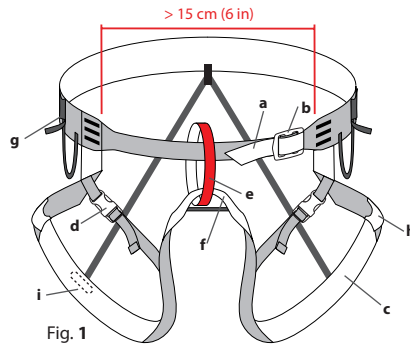

Fig. 1
Overview (Figure 1)
4. The waist belt must fit tightly around your waist above your hip bones and below your rib cage. Make sure that at least 5 cm of webbing tail extend from the safety buckle (b) on your waist belt and that you have at least 15 cm between leg loops (see figures 1 and 2B).
Nomenclature (Figure 1)